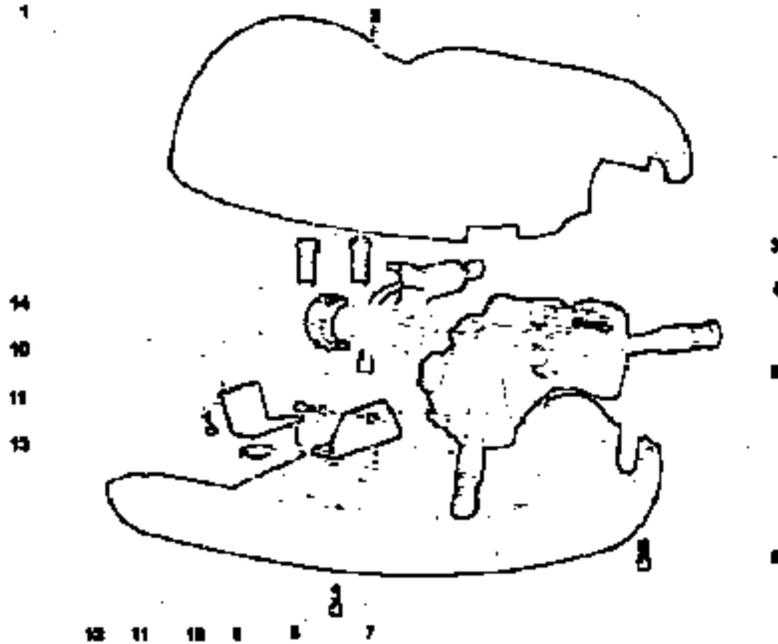

Fig. 1
- 1.1 Remove the lower cover (13) removing the attaching screws (6) and (8) referring to Figure 1.